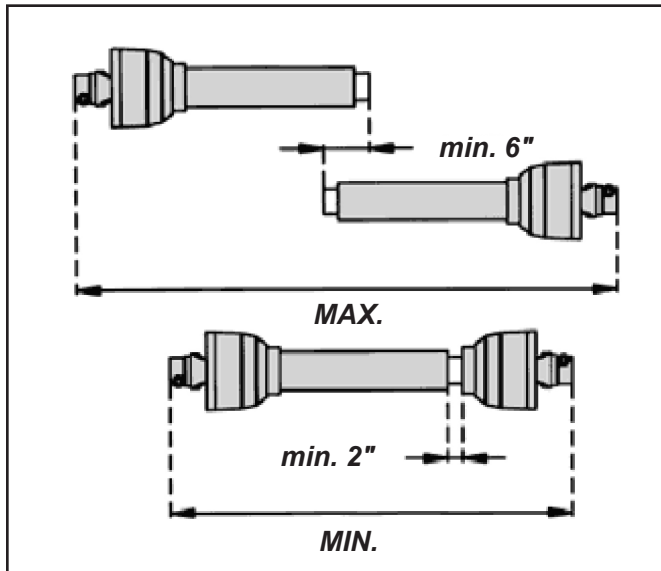

Figure 9. Example of Overlap
3. On a flat, level surface, slowly raise and lower the post hole digger while closely watching the driveline to see if it separates, binds, or bottoms out. With the 3-point arms fully raised, measure driveline overlap and verify there is a minimum of 6" overlap of driveline telescoping members. See Figure 9.
4. Lower 3-point arms until gearbox output shaft or gearbox output guard contacts the ground. With the gearbox on the ground, measure the overlap of the driveline. Verify there is a minimum of 2" of travel left before the driveline will bottom out. See Figure 9.
4. Hold the two halves parallel to one another to determine how much the driveline must be shortened. Mark each end. See Figure 9.